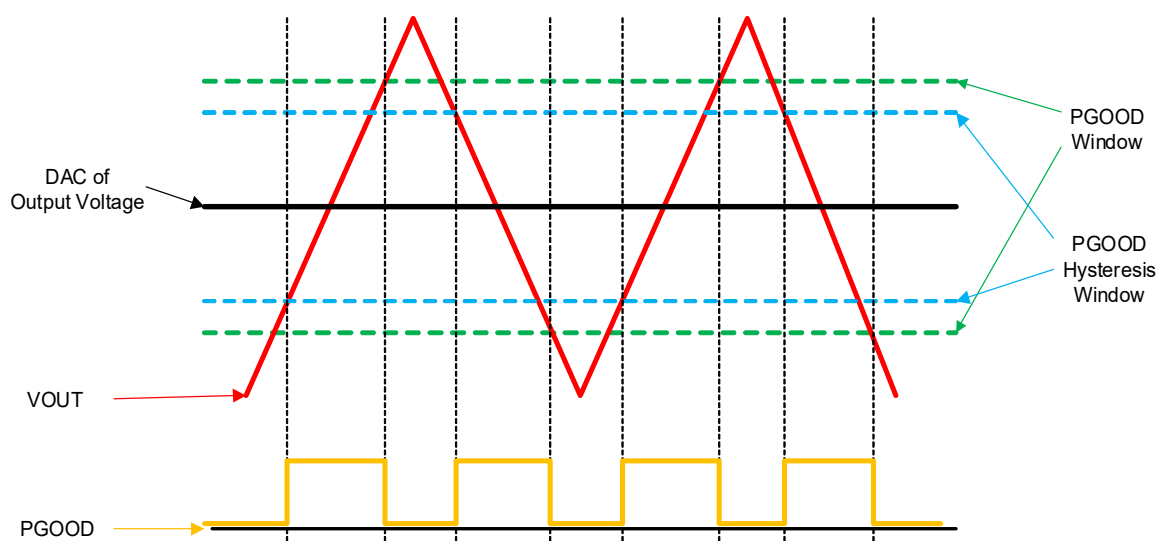

Figure 29. PGOOD Window Behavior
When the output voltage goes out of the PGOOD window, the PGOOD pin is pulled low. PGOOD window also can trigger the Relative Output Overvoltage (OV) interrupt and Relative Output Undervoltage (UV) Alert depending on whether an output overvoltage or undervoltage event occurs (see Table 20). More details about the Relative Output OV interrupt are in section Relative Output Overvoltage Interrupt and details on Relative Output UV Alert are in section Relative Output Under Voltage Alert. Figure 29 shows how the PGOOD pin is asserted depending on the output voltage and the PGOOD window. Table 25 describes the PGOOD window and PGOOD hysteresis window size according to Control2 Bits[9:8].